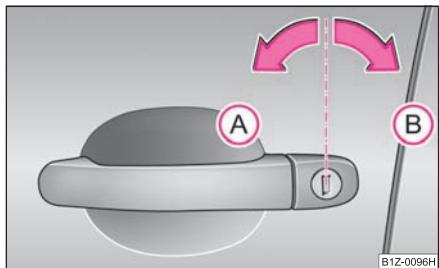

Fig. 32 Turning the key for unlocking and locking the vehicle
- Turn the key in the locking cylinder of the driver's door to the left in the unlock position **A** ⇒ fig. 32.
- Turn the key in the locking cylinder of the driver's door to the right in the lock position **B** ⇒ fig. 32.